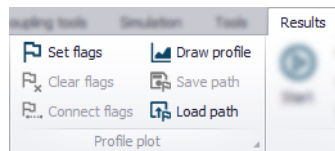

Figure 20.42 Set flags from the Profile Plot toolbox on the Results ribbon
- Set path flags on the result map using the 'Set flags' tool from the Profile Plot toolbox on the Results ribbon (Figure 20.42).